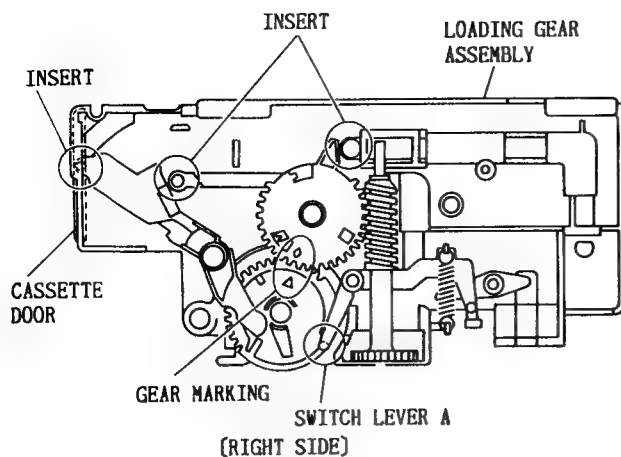

Fig. 5-5
- \* When reinstalling the loading gear assembly, check that two (2) bosses of the cassette holder are inserted into the grooves on the right of the chassis holder. (Fig. 5-5)
- \* Check that marking (Δ) on the synchro gear and marking (◇) on the clutch gear are aligned. (Fig. 5-5)
- \* Check that the boss of cassette switch lever (A) is set to the cam of the synchro gear.